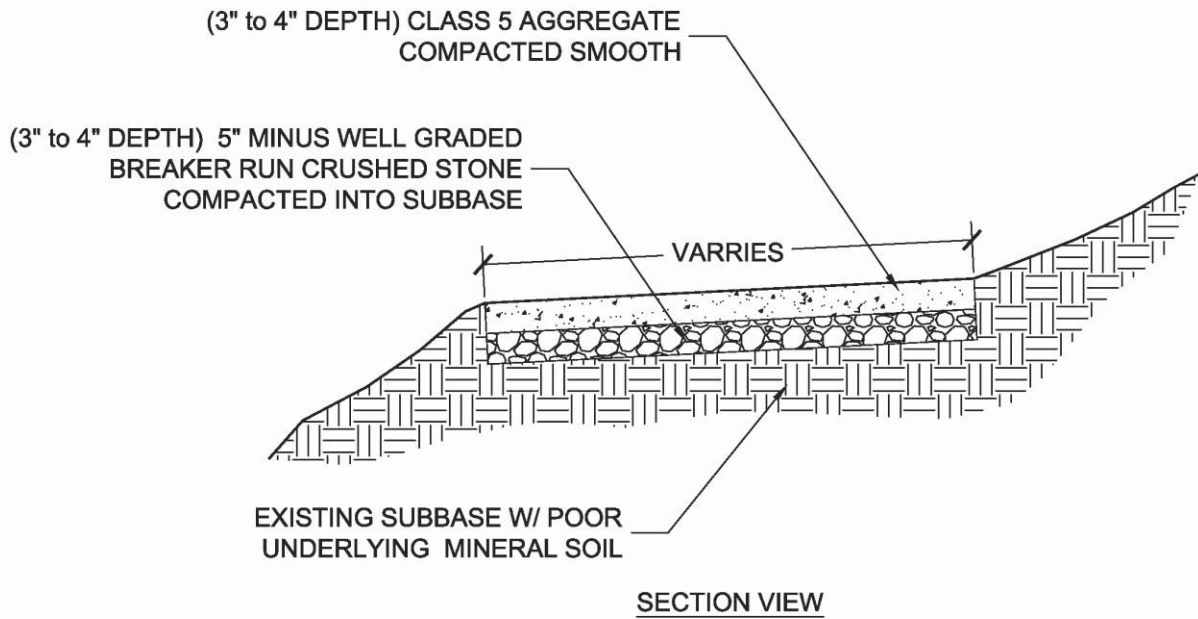

Figure 17: Trail Capping (NTS)
4.19 Trail Capping (figure 17)